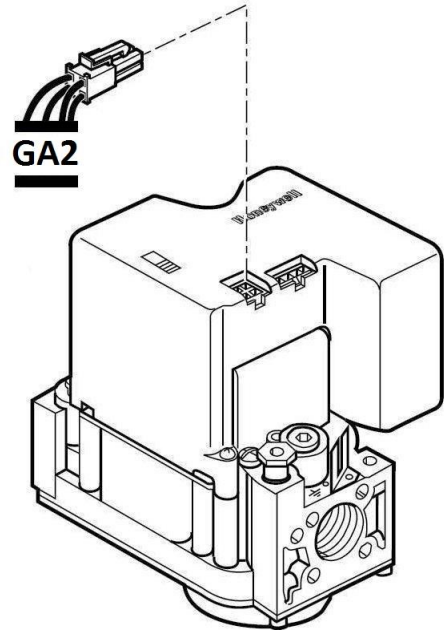

Figure 4
4. Connect the GA1 Adapter between the appliance wiring and the SmartValve™ in place of the connector removed in Step 4, **Figure 4**. Make sure the keyed connectors lock into place. Make sure your meter is connected properly.